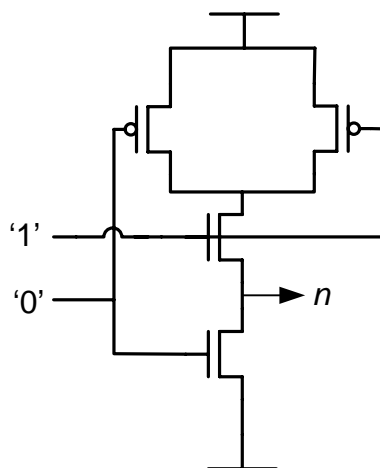

Figure 1 : CMOS NAND gate
2.0 – Consider the static CMOS nand gate shown in Figure 1. Ignoring junction leakage and subthreshold current, determine the output voltage the node  $n$ .